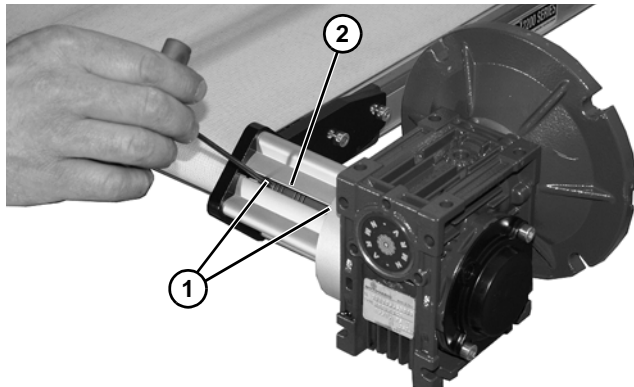
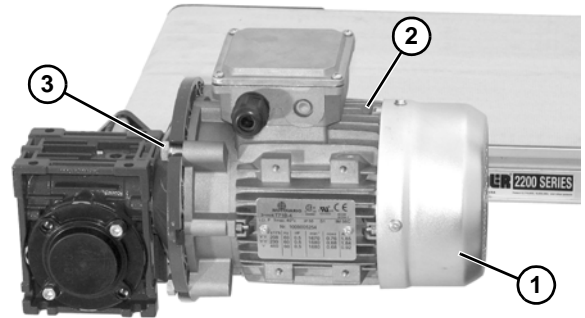

Figure 21
Figure 22
4. Remove fan guard (Figure 22, item 1), and rotate fan to align set screws (Figure 21, item 1) with access slot (Figure 21, item 2). Tighten to 32 in-lb (3.7 N-m). Repeat for second set screw.
5. Apply anti-seize compound to motor shaft before assembling to gearbox. Install motor assembly (Figure 22, item 2) and secure with four bolts (Figure 22, item 3).
1. Remove fan guard (Figure 22, item 1) and rotate fan to align set screws (Figure 21, item 1) with access slot (Figure 21, item 2). Loosen set screw. Repeat for second set screw.